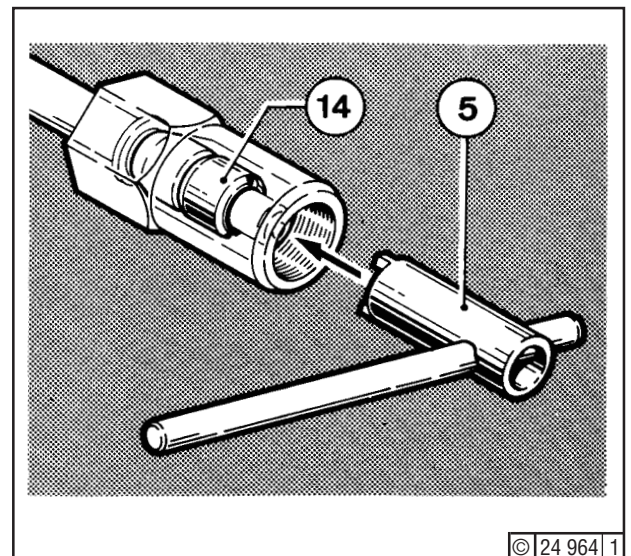

Fig. 1
Screw off clamping sleeves (14) at both ends of the piping by means of socket spanner (5) - Fig. 1.